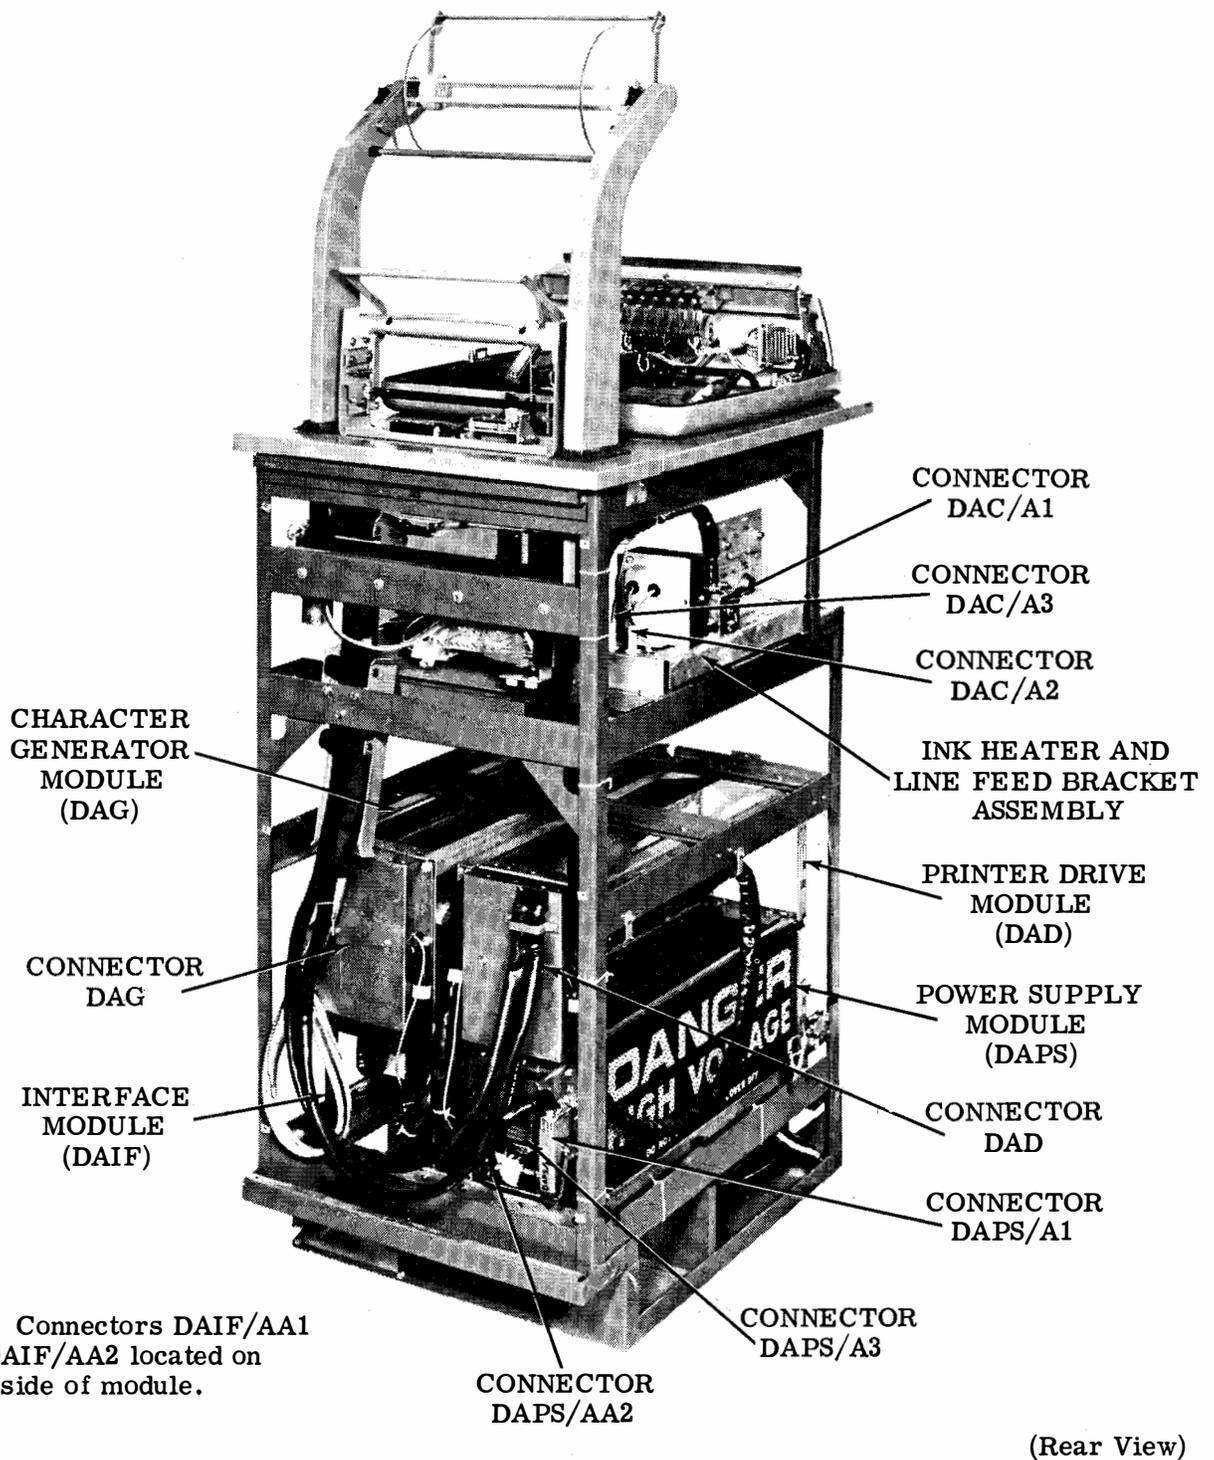

Figure 8 - DATASPEED Printer With Panels and Doors Removed, Modules in Normal Position
(3) Set the modules in front of the cabinet.
(4) To disconnect the printer drive module, unscrew the four nuts that secure the DAD connector to the back of the drive module (Figure 8) and remove the connector from the module. To disconnect the power supply module, unlatch and remove connectors DAPS/A1 and DAPS/A3. Also unplug connector DAPS/A2.
(5) Separate the printer drive module from the power supply module by prying the latches at the four corners outward until they disengage from the studs on the top of the power supply module.
(6) Lift the printer drive module away from the power supply module.